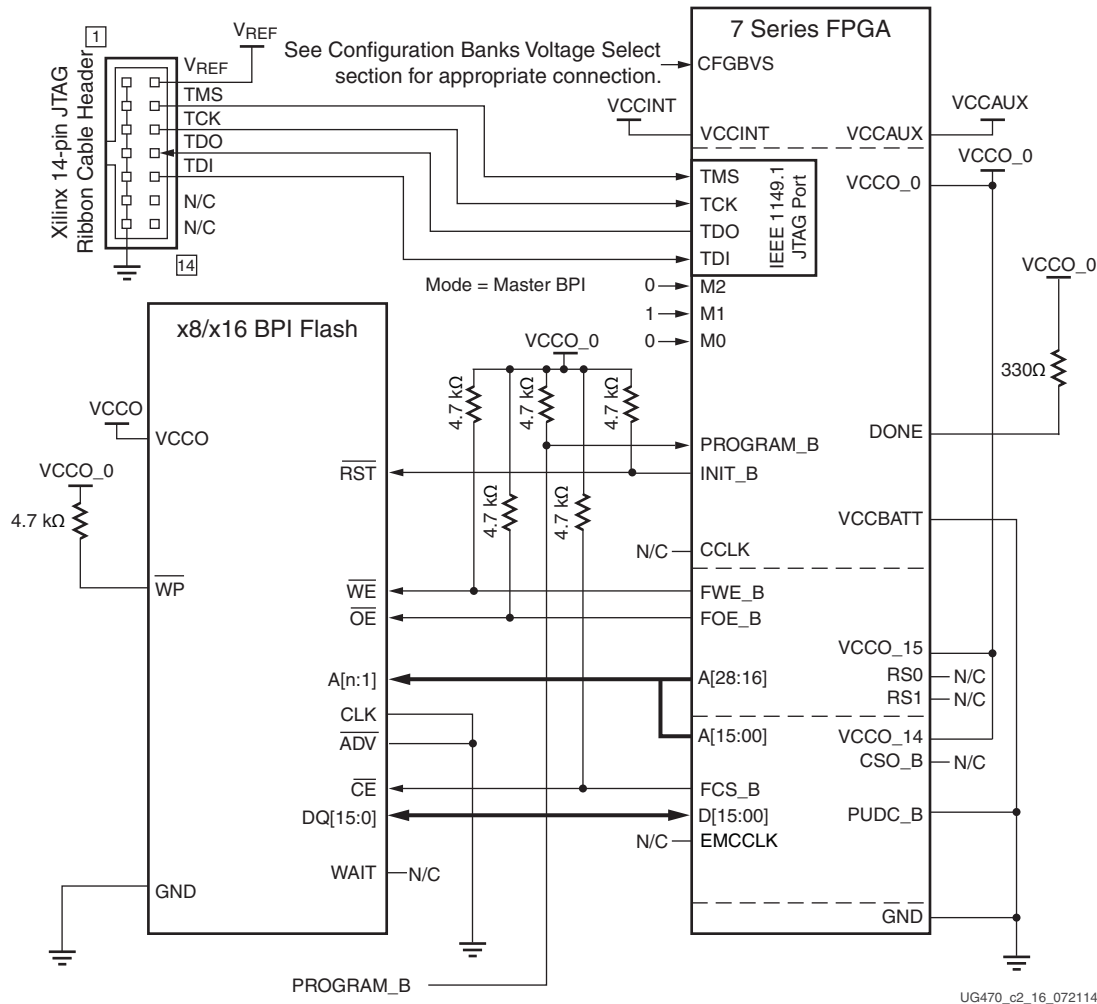

Figure 2-16: 7 Series FPGA Master BPI Configuration Interface - Asynchronous Read Example
By default, 7 series FPGAs use the asynchronous mode of the BPI flash to read bitstream data as shown in Figure 2-16, page 57. The FPGA drives the address bus from a given start address, and the BPI flash sends back the bitstream data. The default start address is address 0. The start address can be explicitly set in a MultiBoot reconfiguration procedure as outlined in Chapter 7, Reconfiguration and MultiBoot. In asynchronous read mode,
Notes relevant to Figure 2-16:
4. Figure 2-16 shows the x16 BPI interface. For x8 BPI interfaces, only D[07:00] are used. See Bus Width Auto Detection, page 76.
7. The RS[1:0] pins are not connected as shown in Figure 2-16. These output pins are optional and can be used for MultiBoot configuration. See Chapter 7, Reconfiguration and MultiBoot.
11. The FPGA mode (M[2:0]) pins are shown set to Master BPI mode (010). The implementation of a board-level option that enables the user to change the FPGA mode pins to JTAG mode (101) is recommended to enable JTAG-based debug capability for the FPGA during design. This is not required, but the JTAG mode setting ensures that there is no interference from the Master BPI configuration during debug.